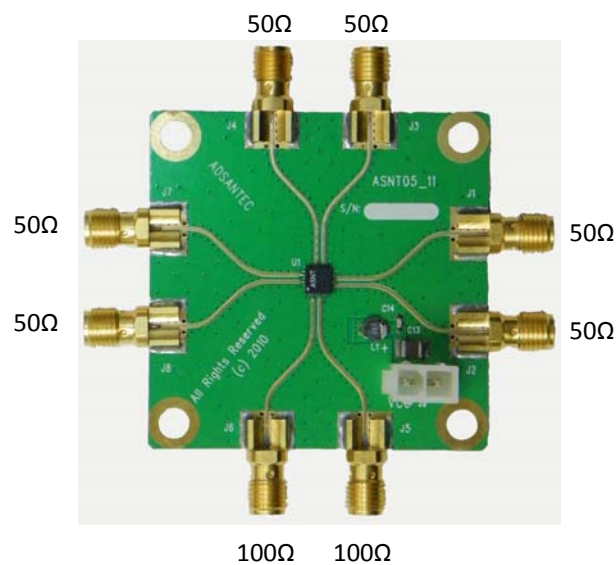

Fig. 5. Impedance of I/O Connectors
- Measure the resistance of all connector pins to VCC, including the power supply, while making sure the board is grounded. All high speed I/O ports should measure 50Ohms while on the power supply connector, VCC should be a short, and GND should be high impedance. icntp/icntn should measure 100Ohms and tnp/tnn should measure 50Ohms. Fig. 5 shows the resistance values of the described I/O connectors.